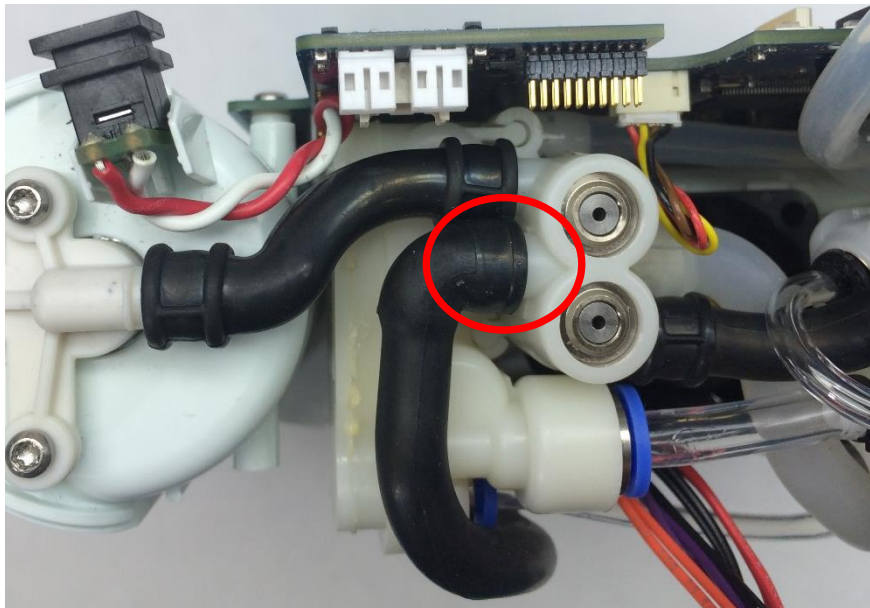

Figure 8: Exhaust tube and feed waste manifold
3. Remove the exhaust tube from the feed waste manifold using a small flathead screw driver, if necessary (Figure 8).